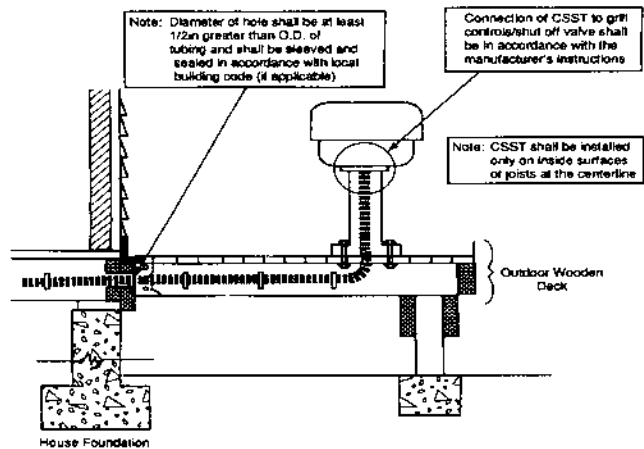

Figure: 4-20
2. Permanently mounted grills located on decks shall be connected with the **TracPipe®** system as shown in Figure: 4-20 and in accordance with this guide. The outdoor portion of the piping shall be supported against the side of any of the inside deck joists. If the elevation of the deck is below the top of the foundation, any exposed piping shall be protected using water-tight non-metallic conduit.
3. Permanently mounted lights located on decks shall be connected to the piping system the same as permanently mounted grills shown in Figure: 4-20 and in accordance with the manufacturer's instructions.